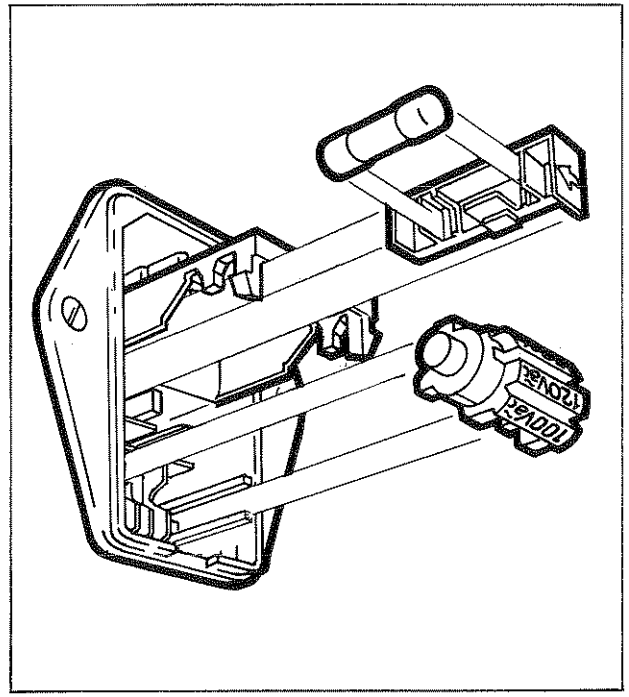

Fig. 2.2 The fuse and voltage indicator locations in the voltage selector unit.
- Take out the voltage indicator camshaft, see Fig. 2.2.
The fuseholder, as shown in Fig. 2.2, is located in the slide on the right-hand side inside the voltage selector. On delivery, the instruments are fitted with fuseholders suitable for European 5 x 20 mm fuses. Special fuseholders are required for U.S.A. spec. fuses.